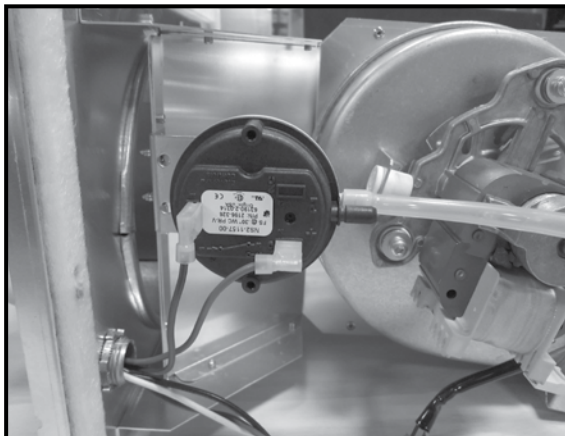

Figure 3.11
5. Attached the red and brown wires to the pressure switch. See Figure 3.11.